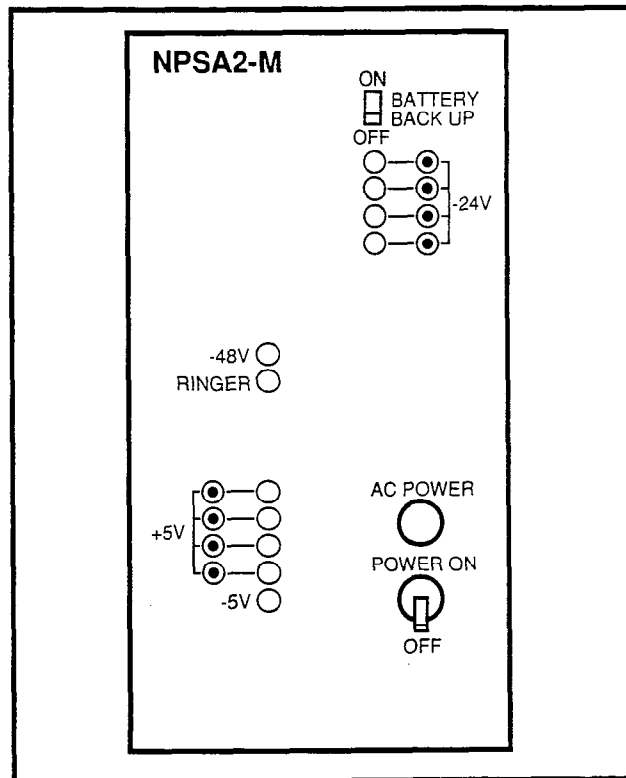

FIGURE 4-5—PERCEPTION_e POWER SUPPLY CONTROLS AND INDICATORS
- 19) Set the **BATTERY BACKUP** switch to **ON** (Figure 4-5).